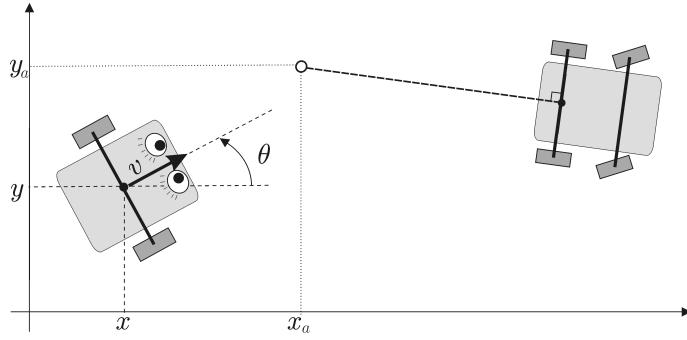

Figure 6.10: Our robot (with eyes) follows a vehicle (here a car) which has an attachment point (small white circle) to which the robot has to attach
SECOND PART.– (control of a tank-like vehicle). Let us consider the robotic vehicle on the left hand side of Figure 6.10, described by:
2) Another mobile vehicle (on the right hand side of Figure 6.10) tell us, in a wireless manner, the precise coordinates (x_a, y_a) of a virtual attachment point (in other words one that only exists mentally), fixed with respect to this vehicle, to which we need to position ourselves. This means that we want the center of the robot (x, y) to be such that $x(t) = x_a(t)$ and $y(t) = y_a(t)$. This vehicle also sends us the first two derivatives $(\dot{x}_a, \dot{y}_a, \ddot{x}_a, \ddot{y}_a)$ of the coordinates of the attachment points. Propose the expression of a control $\mathbf{u}(\mathbf{x}, x_a, y_a, \dot{x}_a, \dot{y}_a, \ddot{x}_a, \ddot{y}_a)$ which ensures us that the distance between the position (x, y) of our robot and that of the attachment point (x_a, y_a) decreases in an exponential manner. We will set the poles at -1 .